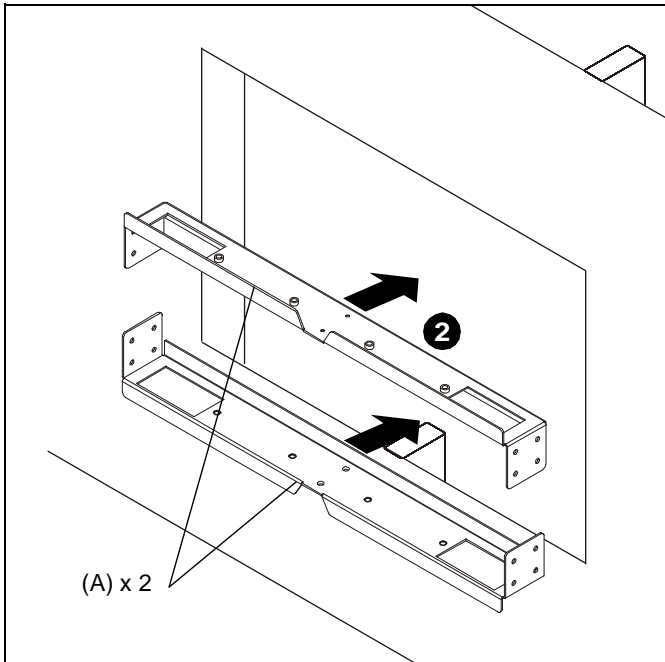

Figure 3
2. Orient header and footer brackets (A) within the cut-out drywall area. (See Figure 3)